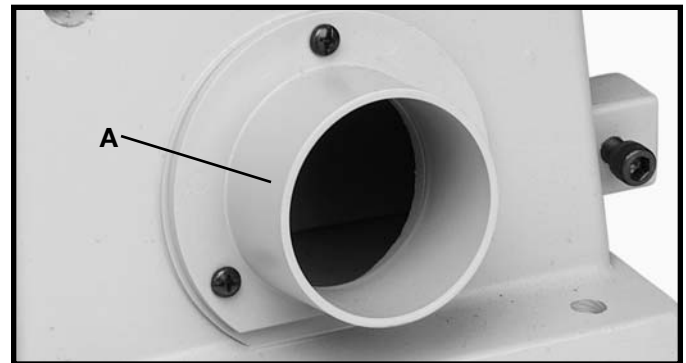

Fig. 38
A dust spout (A) Fig. 38, is supplied with your sander and can easily be connected to a standard shop vacuum hose. The outside diameter of the opening of the dust spout is 2-1/2 inches.